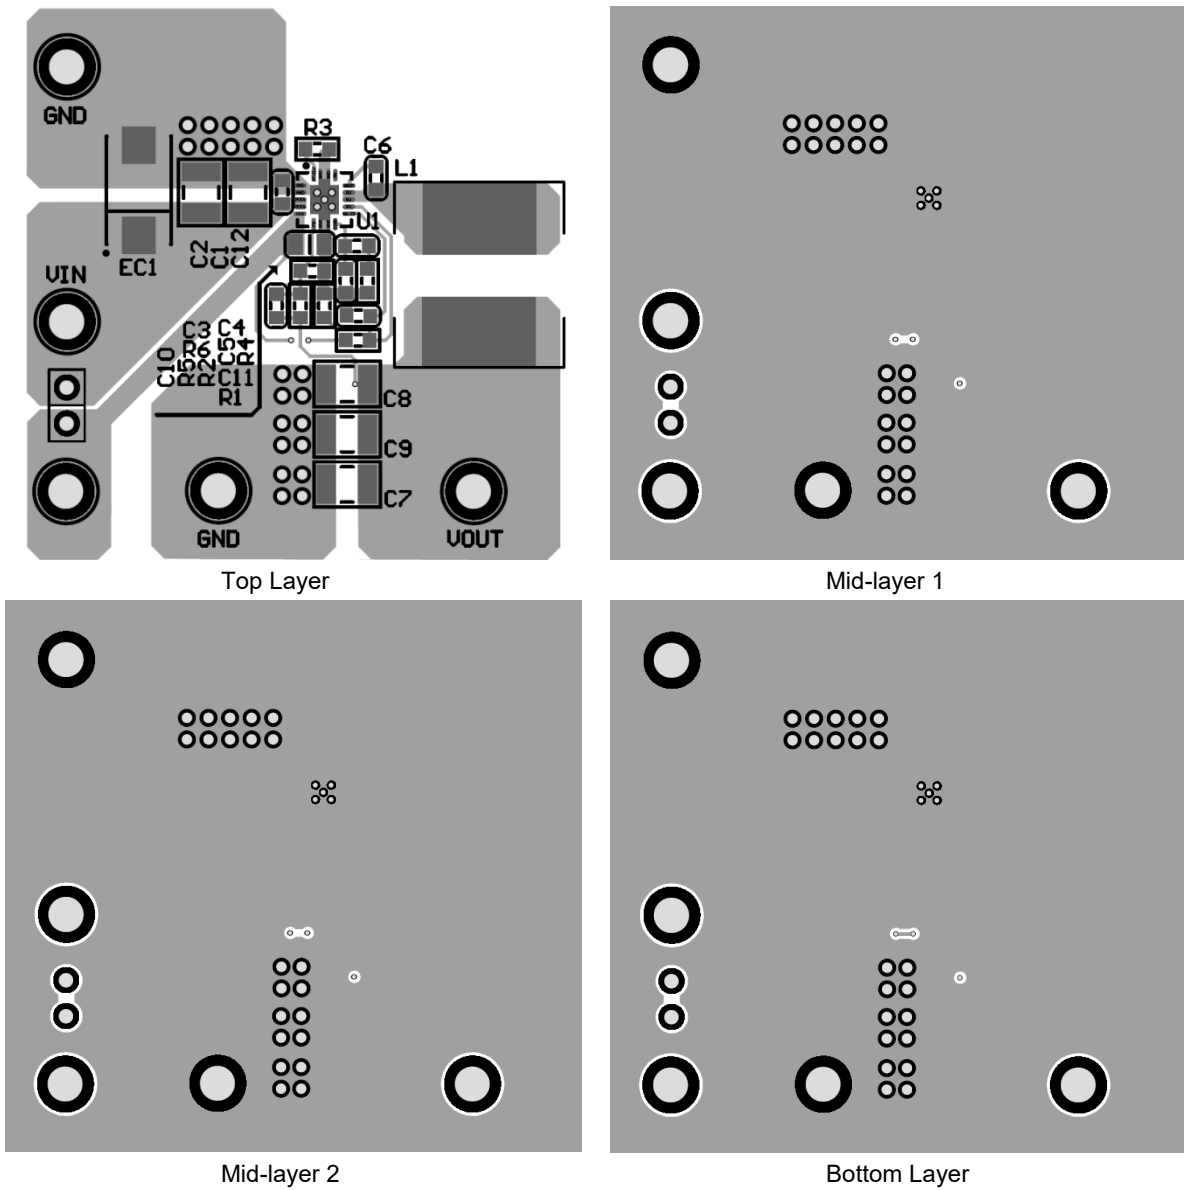

Figure 15. PCB Layout
- PCB layout is critical for a stable and high-performance converter operation. The recommended layout is shown in Figure 15.